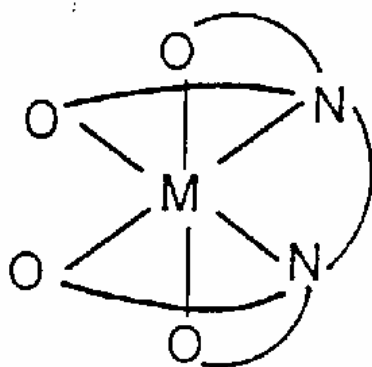

Fig 5.3 Structure of a metal-EDTA complex
- Metal-EDTA complexes are generally quite stable, due to the number of chelate rings formed (see Fig 5.3)